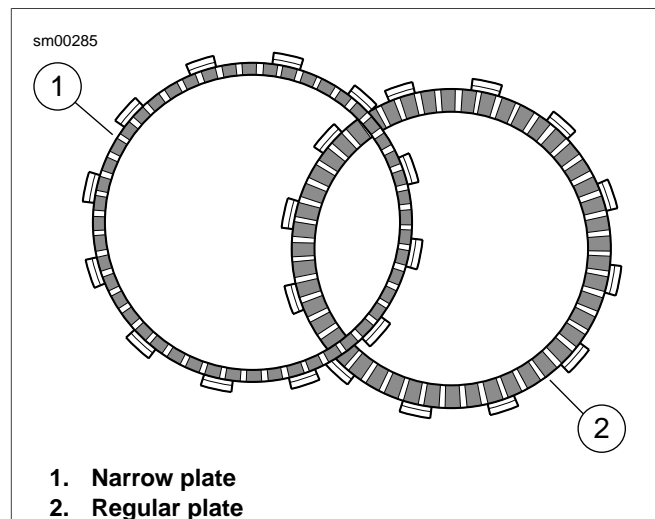

Figure 5-19. Friction Plates
2. See Figure 5-19. Install narrow friction plate on the clutch hub engaging tabs on plate with slots in clutch shell.